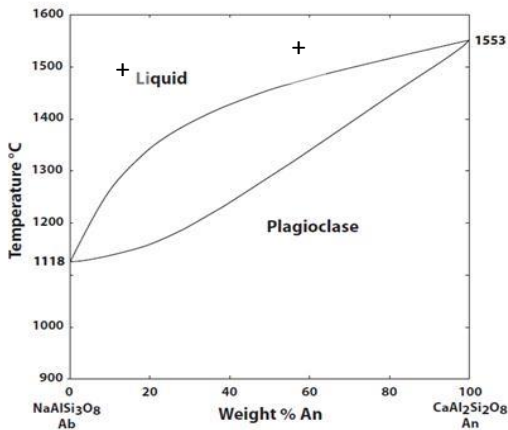

Figure 5: Albite + Anorthite Phases (SERC)
3. Describe the equilibrium conditions shown in Figure 5.